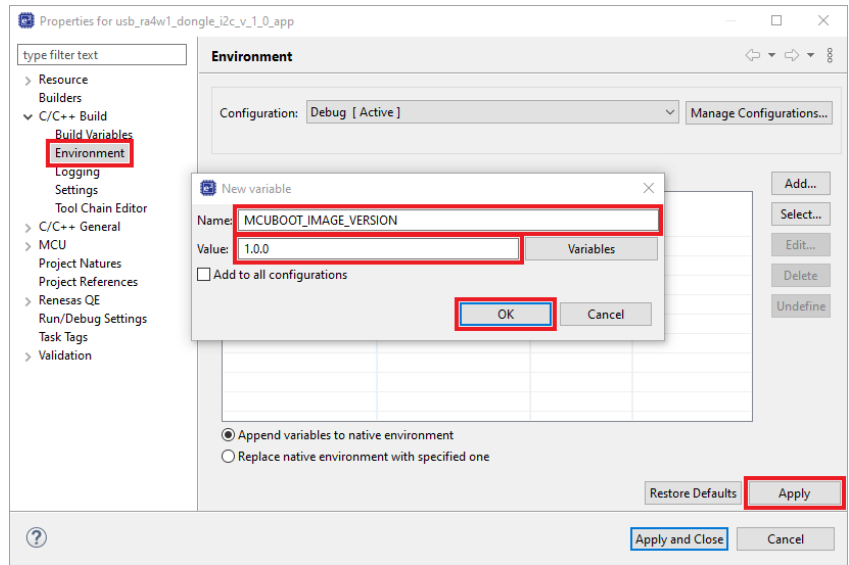

Figure 25. Adding a Project Version Number
15. Select **C/C++ Build > Environment**, click on the **Add...** button. In the **Name:** field enter **MCUBOOT_IMAGE_VERSION** and set the **Value:** to the actual application project version number (Figure 25). Click on the **OK** button and then on the **Apply** button to save the change of the properties.